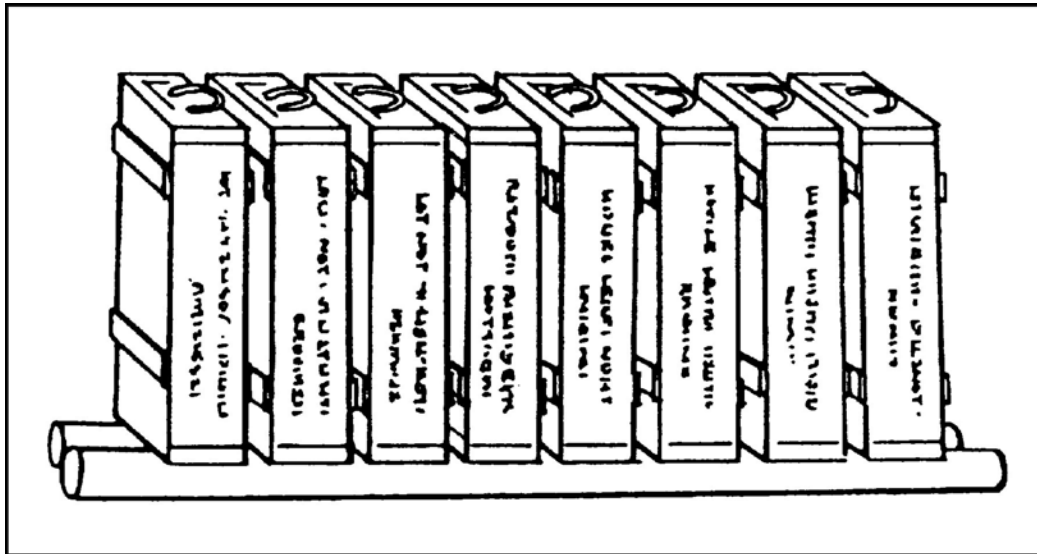

Figure 2. Storage of WP Ammunition
- b. Boxed WP ammunition must be stored on the dunnage, FUZE UP. WP ammunition should not be stacked more than one layer (one box) high. There must be space between boxes and rows for ventilation (Figure 2).